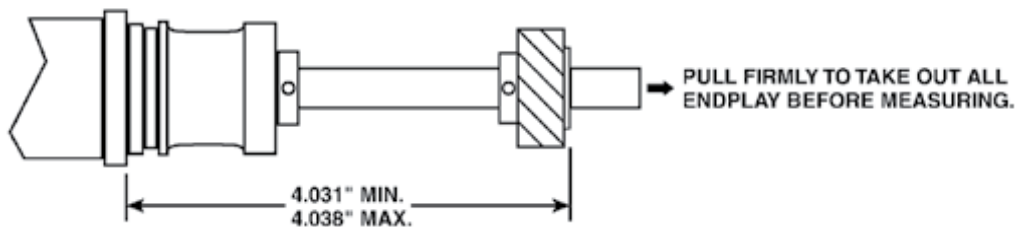

Fig. 1
**STEP 6:** Pull distributor shaft out of distributor housing to eliminate endplay (see Fig. 1).
**STEP 7:** Check location of distributor gear on distributor shaft (see Fig. 1). If it is not in the correct location, use a press to move the gear to the correct location.
**NOTE:** It is important that the dimensions called out in Figure 1 are maintained while drilling.
**STEP 9:** Insert roll pin and check dimensions (see Fig. 1).